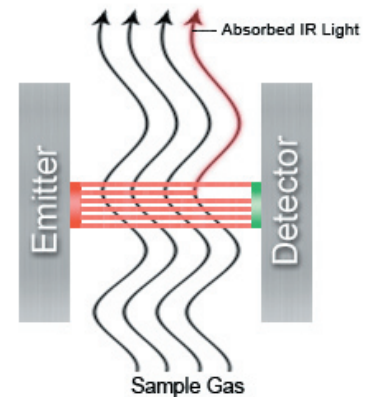

Figure 18
**Non-Dispersive Infrared Detection:** (Figure 18) This method of measurement is made by simple spectroscopy; emitting a known amount of a specific wavelength of infra-red light through a sample and recording the amount absorbed by the sample. We use this method for the detection of Carbon Dioxide, Methane, and Carbon Monoxide (10%). Each of these compounds absorb a very narrow wavelength range of infra-red light. Each respective sensor emits the corresponding wavelength of IR light, it passes through the sample gas, and a detector records how much of the IR light makes it through. This value is inversely proportional to the concentration of gas in the sample.